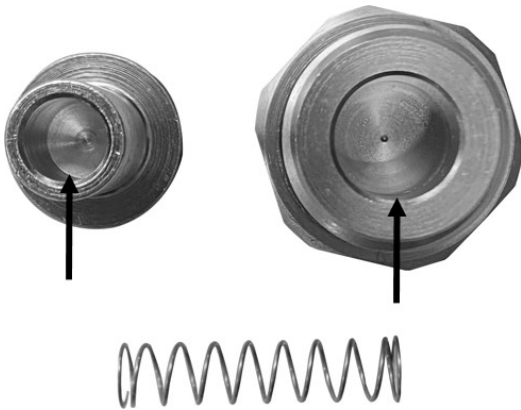
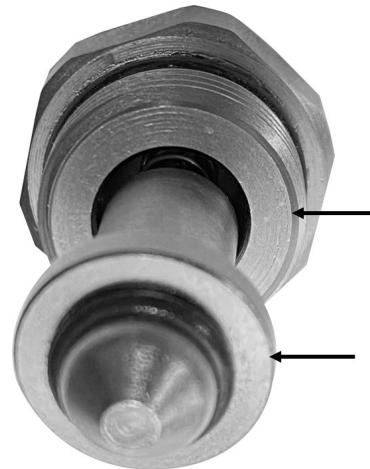

Fig.4
Fig. 5
- Wipe down new check valve assembly to ensure debris does not cause a negative seal. (Fig. 4, Fig. 5)